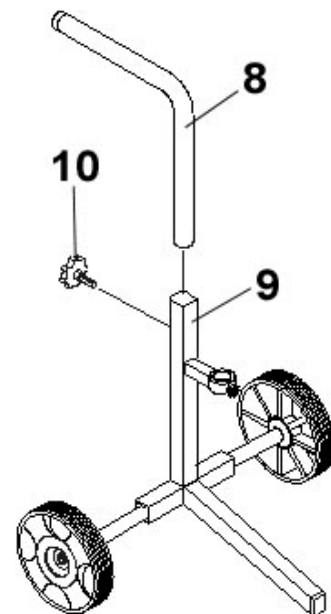

Fig. 17
- 6 Insert the upper bar **8** of the frame onto the frame **9** and block at the height desired using the relative screws **10** (fig. 17).